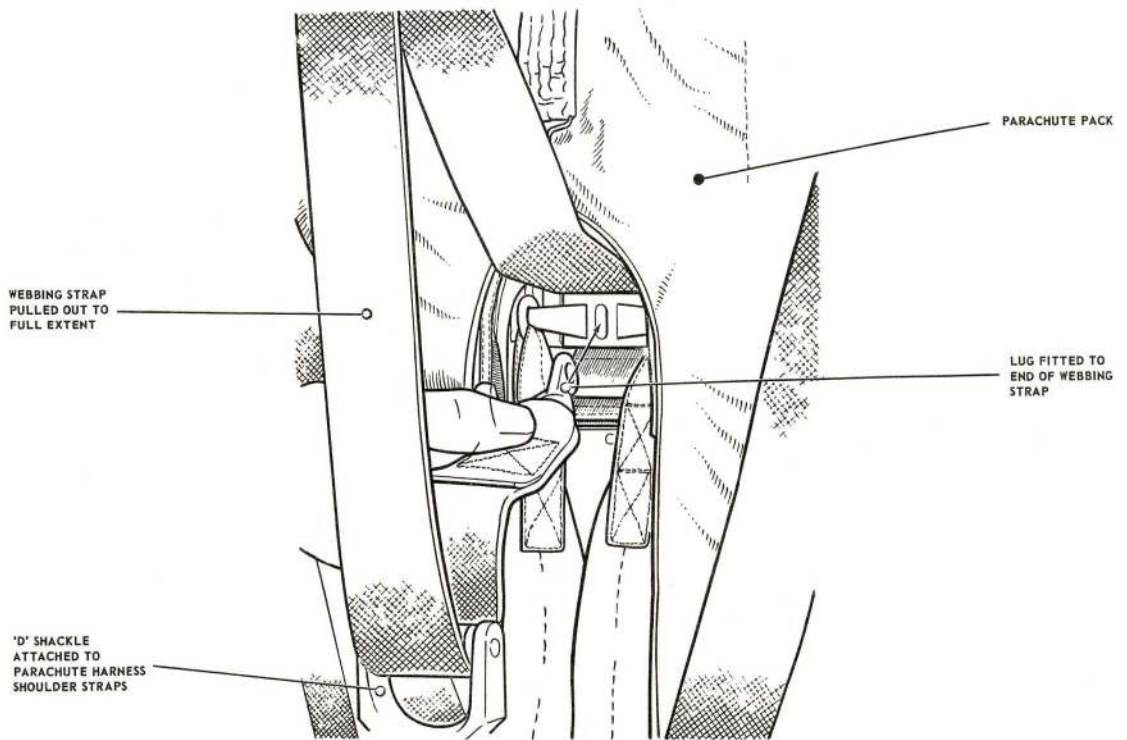
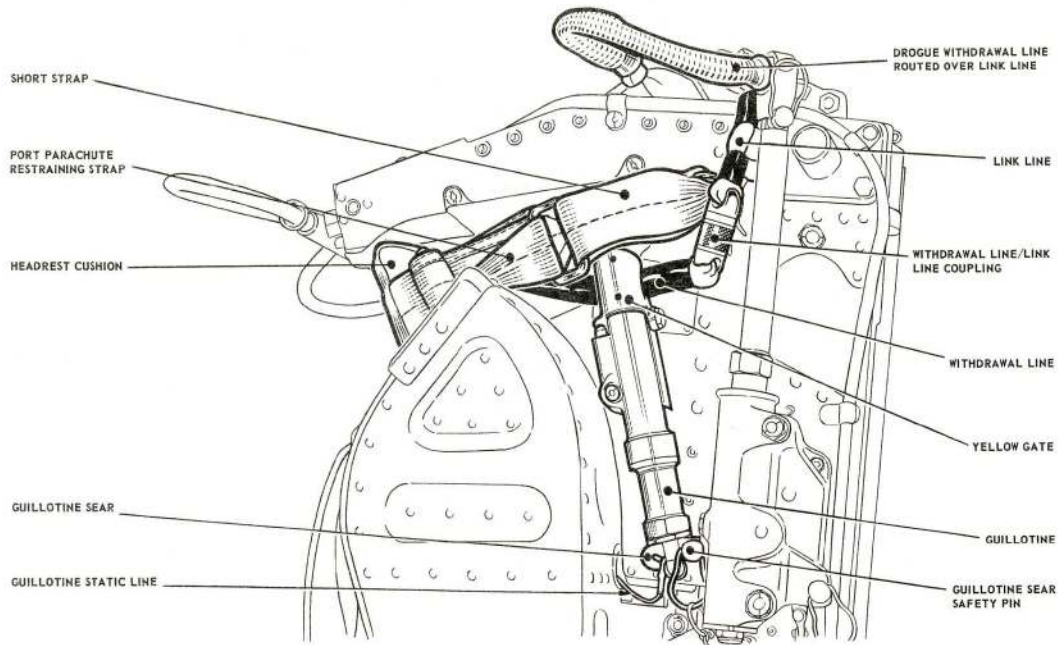

Fig. 3. Insertion of lug into top harness lock
Fig. 4. Arrangement on port side of drogue container
- (5) Place the parachute pack in the parachute container, guiding the static line for the guillotine through its aperture in the back plate. Push the pack well into the container so that it is supported on the support bracket. Bring the two parachute restraining straps through the arch of the pack, ensuring that they are not crossed.
- (6) Ensure that the manual separation handle is in the locked position.
- (7) Move the 'go-forward' lever to the fully forward position and then release it to the centre position. Pull out the webbing strap from under the parachute support bracket and hold it against the spring tension.
- (8) Pass the webbing strap DOWNWARDS through the D-shackle attached to the harness shoulder straps, ensuring that the harness straps are not twisted. Insert the lug fitted to the end of the webbing strap, between the inner extremities of the paddle spreaders into the top harness lock in the back of the seat (*fig. 3*); push the lug in until it locks into position. It may be necessary to partially depress the harness release lever situated below the barostatic time release unit to facilitate the insertion of the lug. Check that it has locked correctly by pulling on the webbing strap. Move the 'go-forward' lever to the rear position and allow the strap to wind back.
- (9) Connect the two halves of the parachute withdrawal line/link line coupling. Open the yellow gate on the top of the guillotine and route the parachute withdrawal line through the aperture in the guillotine. Close the yellow gate and ensure that it correctly retains the parachute withdrawal line.
- (10) Draw the free ends of the parachute restraining straps forward through the arch of the parachute pack, over the pack and towards the rear of the seat, on either side of the drogue container.
- (11) Pass the port restraining strap over the parachute withdrawal line and insert its end through the buckle of the short restraining strap on the port side of the drogue container, from the outside inwards. Ensure that the drogue link line connected to the parachute withdrawal line is routed **OUTSIDE** the short restraining strap (*fig. 4*).
- (12) Insert the end of the starboard restraining strap through the buckle of the short restraining strap on the starboard side of the drogue container, from the outside inwards.
- (13) Position the headrest wedge pad on the top of the parachute pack, between the pack and the drogue container. Pass the ends of the parachute restraining straps through the buckles on each side of the headrest wedge pad so that the ends emerge on the outside of the buckles.
- (14) Work the straps back and forth in the self-locking buckles on the headrest wedge pad until the parachute pack and headrest wedge pad are strapped tightly to the seat. Pass the free ends back through the buckles on the short restraining straps and stow them neatly between the drogue container and the strap.
- (15) Check that the drogue withdrawal line has been routed **OVER** all other lines (*fig. 4*).
- (16) Ensure that the safety pin is fitted through the sear of the guillotine firing unit. Attach the guillotine static line to the sear.
- (17) Lift the harness clear of the seat pan and fit the negative-G restraint strap as follows:—
- (18) Fit the personal survival pack into the seat pan, draping the lowering line over the port side of the seat pan.
- (19) Secure the cushion to the seat strap of the harness by passing the strap under the cushion and locating it in position with the two press-studded beackets.
- (20) Pass the leather covered straps of the cushion through the two webbing loops on either side of the personal survival pack from rear to front. Pass the leg straps of the combined harness up through the slot in the cushion and secure the cushion to the pack with the lift-the-dot fasteners. Ensure that the leg loops are not crossed.
- (21) Connect the side quick-release couplings of the personal survival pack to the couplings on the harness, ensuring they pass outside the harness lap straps.